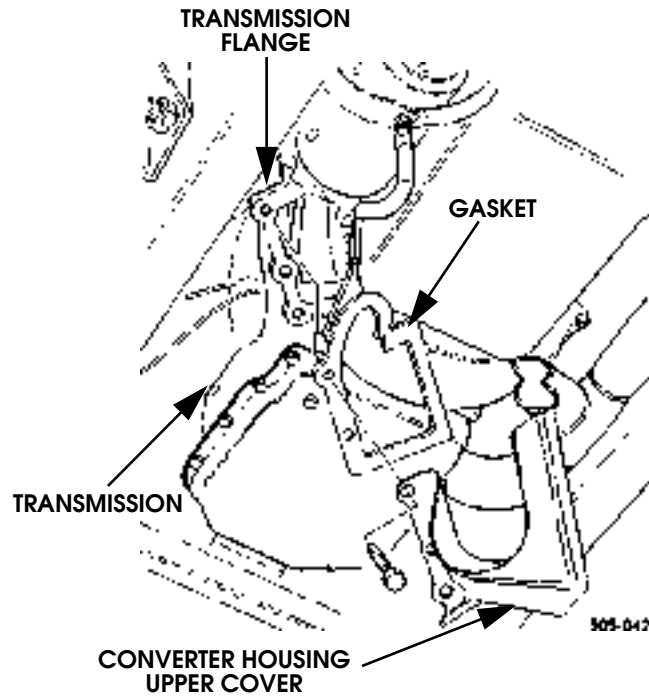

Figure 5-35: Converter Housing Upper Cover Mounting
1. Remove converter housing upper cover from transmission flange (Figure 5-35).